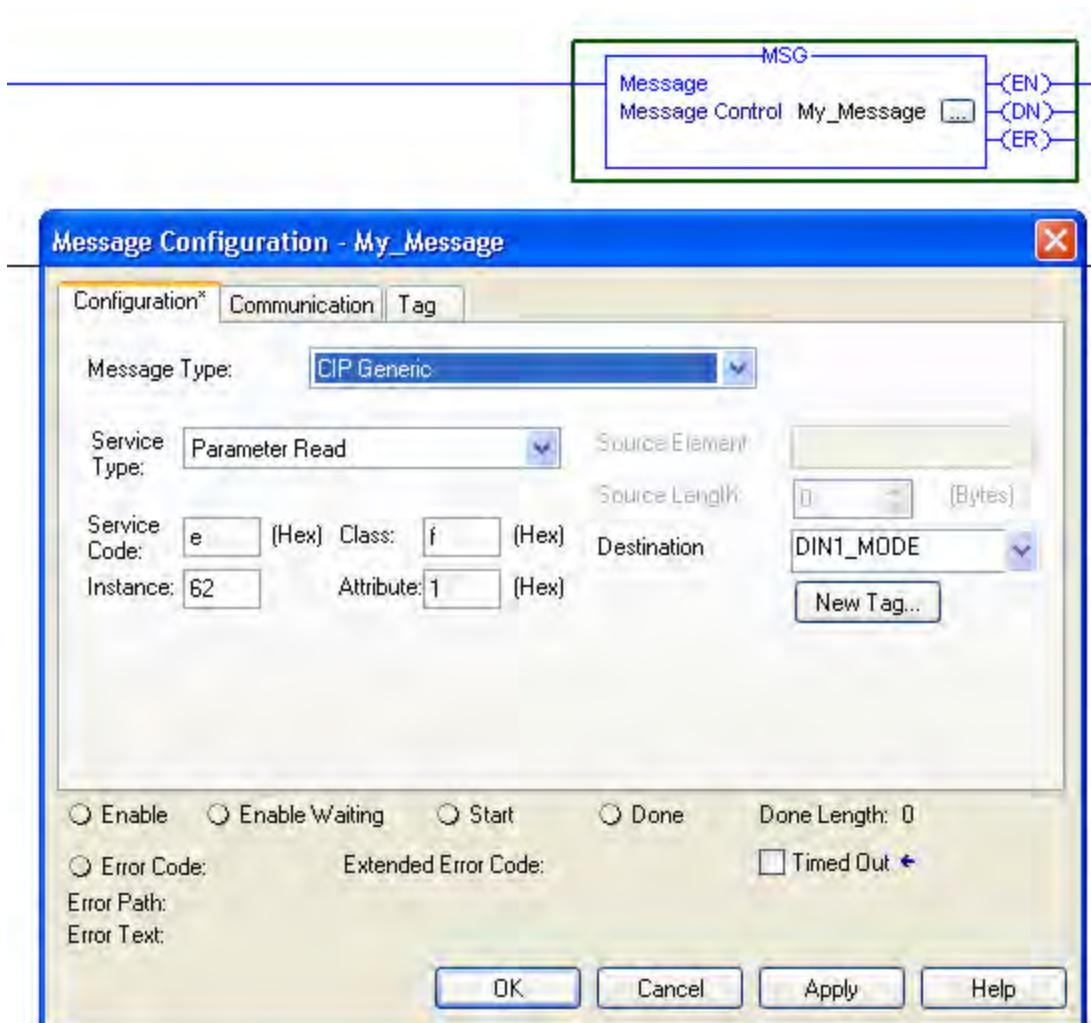

Figure 4-19: Message Configuration
- Set the Axis_Output parameter to the output data of the axis for which you are setting up communication (Figure 4-19: Axis Communication Output). Double click the "?". A drop down box will appear. Select the output data tag that corresponds to the "ETHERNET-MODULE" object you created in the I/O Configuration of the project.